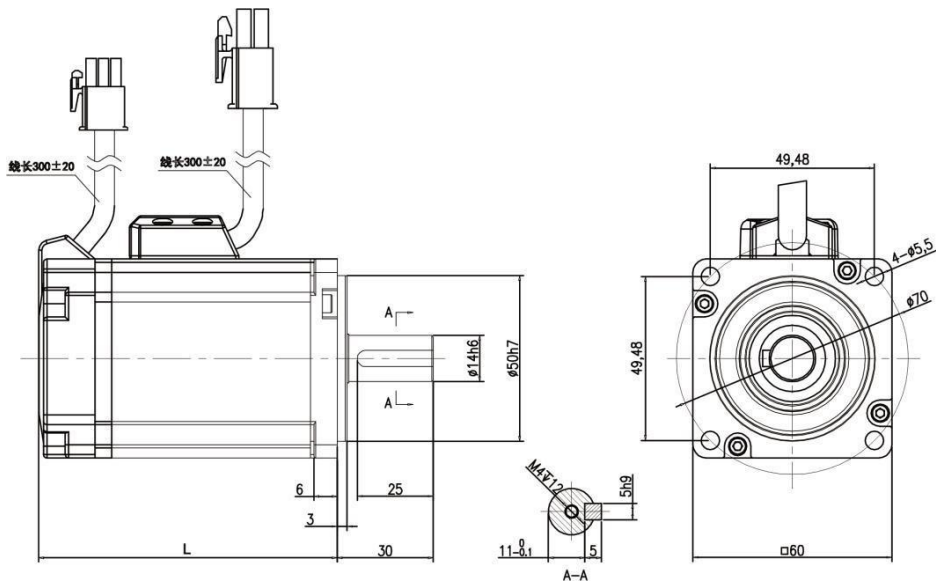

Figure 3.2 60 Motors and Table 3-1
- 60 Mounting dimensions for pedestal motors (see Figure 3.2 and Table 3-1)